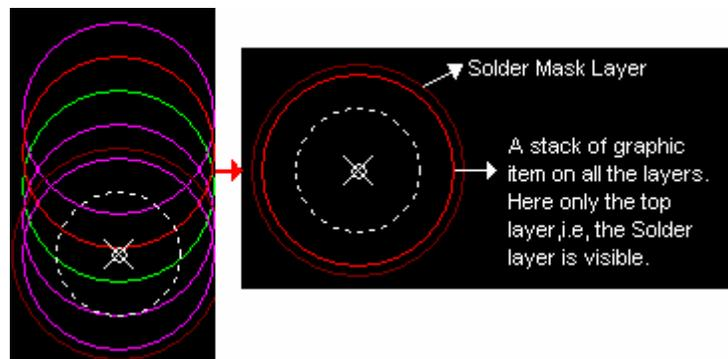

Fig. 3.24
- The HRF item may be created using the tool  **Create Graphic Item/ Create Hrf Pad**  along with  **Create Arc** tool enabled. Define the contact points with the tool  **Set Contact Point**. Then select  **Create Graphic Item** with both the tool  **Create Hrf Pad** and  **Create Arc** tool enabled. Draw arcs to surround the padstack as shown in fig. 3.24.